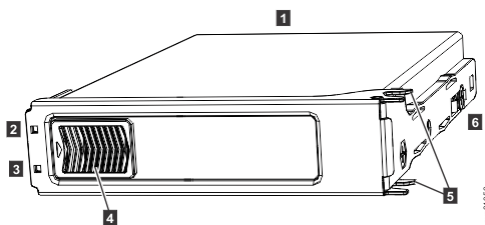

Figure 63. LEDs on a drive assembly
Figure 63 on page 61 shows the components of a drive assembly. Each drive has an online indicator (2) and fault indicator (3).